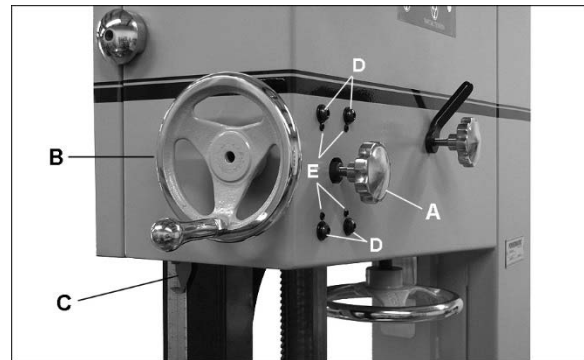

Figure 32: guide post adjustment
Refer to Figure 32.
4. Loosen lock handle (A, Figure 32) and raise guide post to a high position.
6. If guide post does not move straight up and down (blade begins deflecting when guide post is raised), slightly loosen four screws (D, Figure 32).
7. Left and right adjustment is accomplished using a combination of the four screws (D); forward/back adjustment is accomplished using the set screws (E).
- When finished adjusting, securely tighten screws (D).